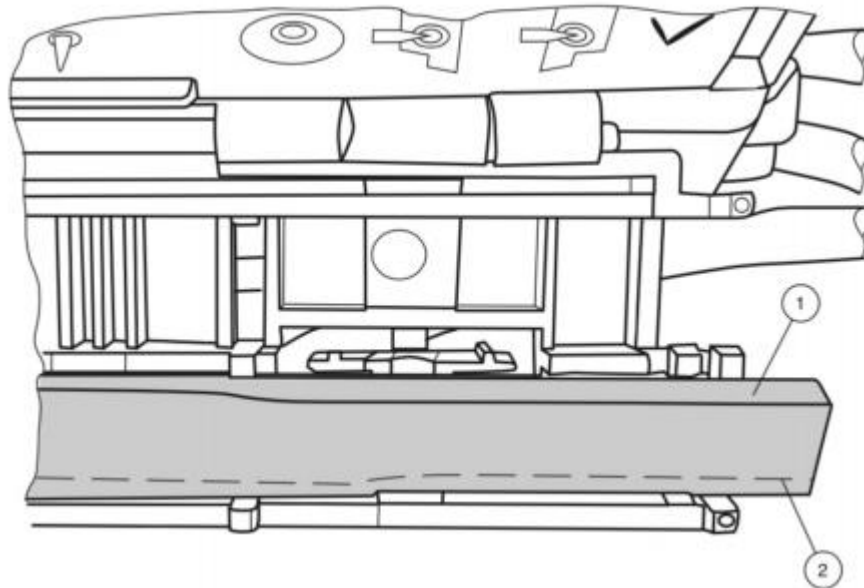

Figure 65: Flat Cable Inserted Incorrectly
Figure 65 shows an incorrectly inserted flat cable. The profile edge (2) does not point to the motor control module; the flat cable is therefore inserted with reverse polarity. The flat cable is located on the reverse polarity protection (1) with a curvature, which means that the cable guide cannot be closed completely (mechanical reverse polarity protection).